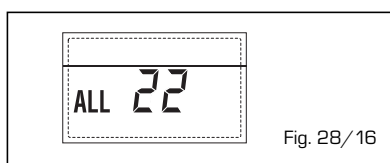

Fig. 28/16
**- ANOMALIA GUASTO SONDA MANDATA SECONDA ZONA MISCELATA "ALL 23" (fig. 28/17)**